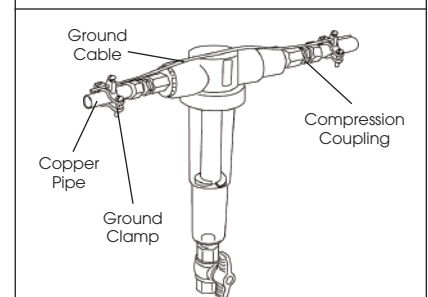

Fig 2. Installation for Copper Pipe.
3. When installing on metallic plumbing maintain proper electrical grounding. Do not overtighten threaded connections. Do not overheat filter when sweat soldering copper joints. (See Fig 2.)